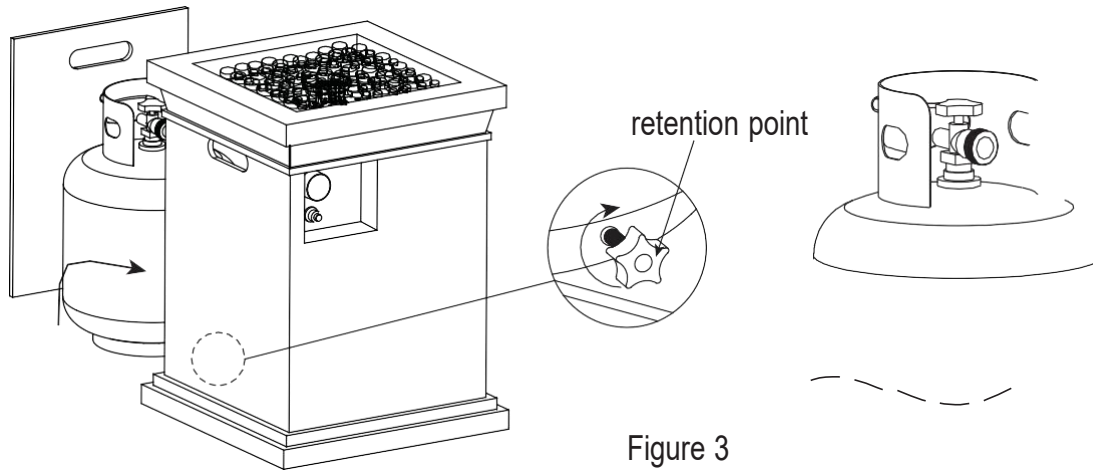

Figure 3
- Place the gas cylinder into the cylinder holder. Secure the cylinder by tightening clockwise the retention point found on the cylinder holder, so that the cylinder cannot move from side to side or fall down. Connect the regulator, screw the black handle clockwise to tighten, turn the black handle counterclockwise to remove. The hose must point down. The knob on the control panel is turned all the way to the "OFF" position when the fire pit is NOT in use (See Figure 3).